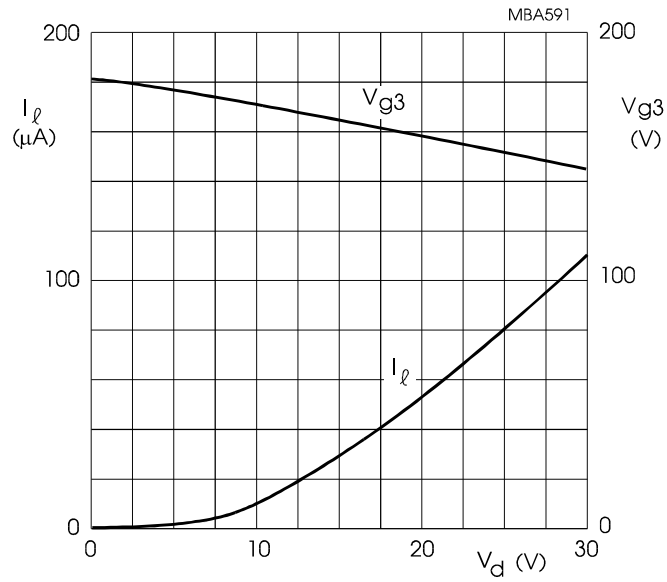

Fig.5 Typical screen current (I_l) and focus voltage (V_{g3}) curves as a function of grid drive voltage (V_d) at $V_{g2,g4,g5} = 2$ kV.
5. An actual focus range of 30 V should be provided on the front panel. V_{g3} decreases with increasing grid drive (see also Fig.5).
6. Intensity control on the front panel should be limited to the maximum useful screen current (approx. 50 μ A; see also Fig.5). It should be adjusted either by the grid drive voltage (up to 22 V) or for maximum acceptable line width. The corresponding cathode current or $I_{g2,g4}$ (up to 500 μ A) depends on the cut-off voltage and therefore cannot be used for control settings.